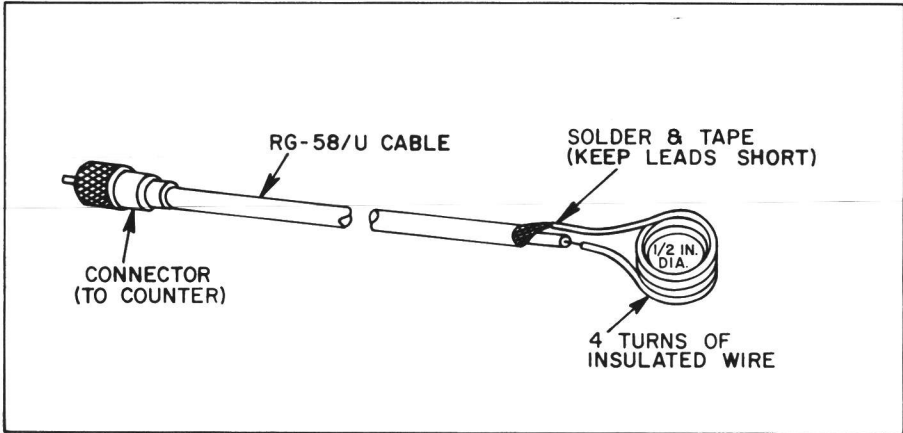

Figure 5 - Coaxial Cable and Test Loop
2. Coaxial cable with test loop as shown in Figure 5.